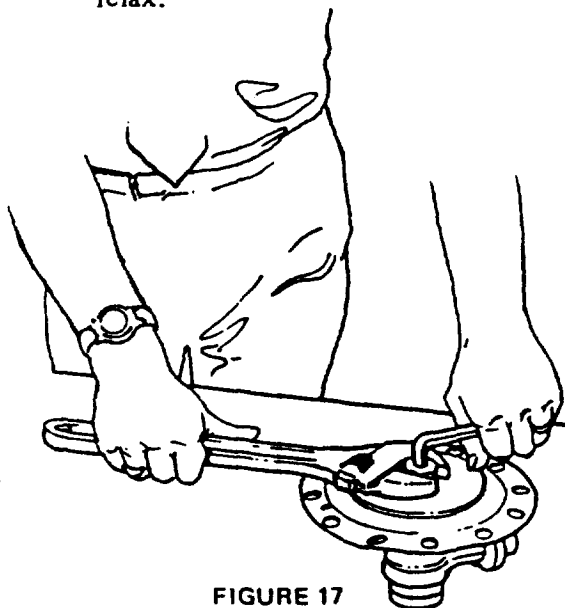

FIGURE 17
- a. Loosen clamp bolt nut (13) slightly. If nut cannot be released by hand, or if clamp bolt turns with nut when wrench applied, disassemble spring as follows:
- (1) Insert Allen wrench into hexagonal opening at bottom end of clamp bolt.
- (2) Rest valve assembly on seat, and remove clamp bolt nut with second wrench. Hold Allen wrench to prevent clamp bolt from turning. (Fig. 17) *A second person must press down on lower diaphragm plate at the same time to prevent sudden release of nut.* After releasing nut, remove wrenches and allow spring to relax.